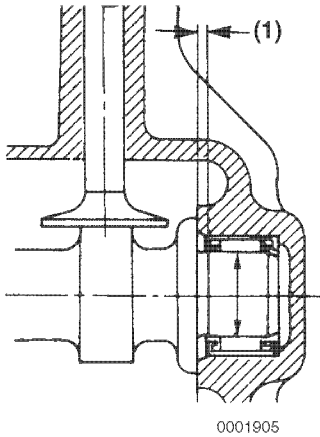

Figure 6-61
1. Measure the installed depth (**Figure 6-61, (1)**) of the camshaft needle bearing on the cylinder block side. Record the measurement.
3. Press the new needle bearing to a depth of 0.055 - 0.059 in. (1.4 - 1.5 mm) (**Figure 6-61, (1)**).